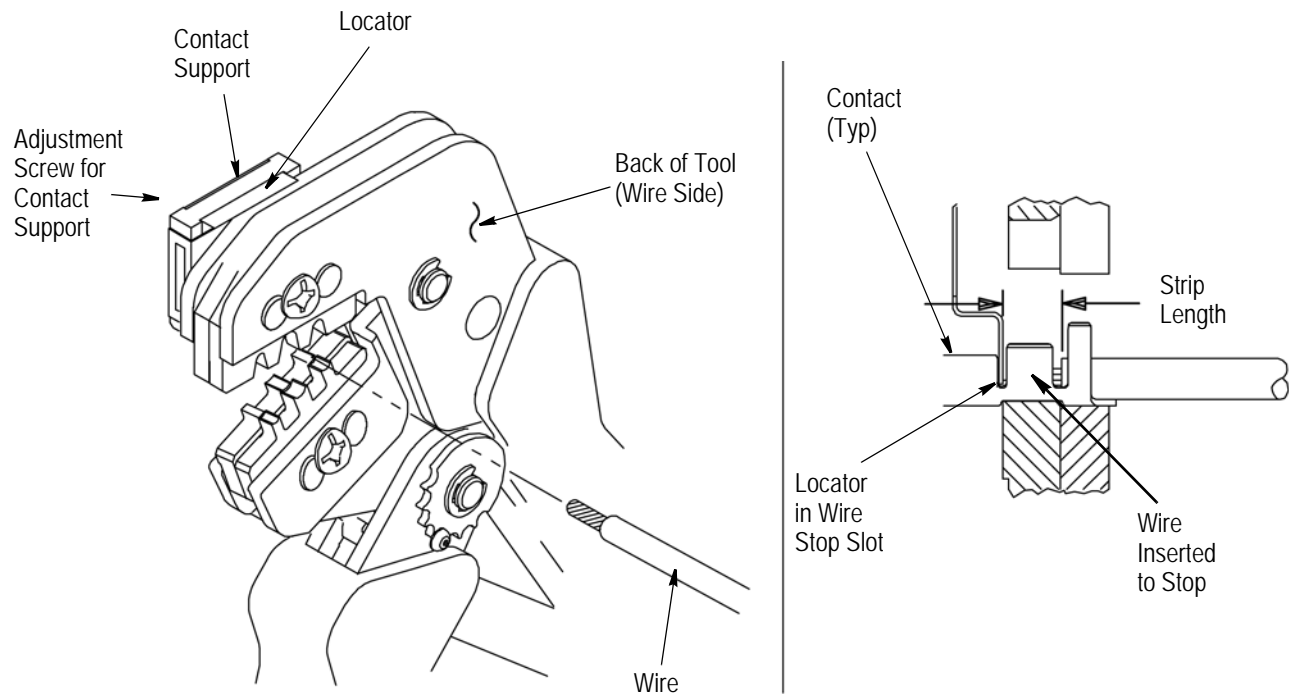

Figure 3
4. CONTACT SUPPORT ADJUSTMENT (Figure 3)
the length indicated in Figure 1, taking care not to nick or cut wire strands. Select an applicable contact and identify the appropriate crimp section according to the wire size markings on the tool. Refer to Figure 3 and proceed as follows:
3. Position the contact so that the mating end of the contact is on the locator side of the tool, and so that the open "U" of the wire and insulation barrels must face the top of the tool. Place the contact up into the nest so that the movable locator drops into the slot in the contact. Refer to Figure 3. Butt the front end of the wire barrel against the movable locator.
5. Insert stripped wire into contact insulation and wire barrels until it is butted against the wire stop, as shown in Figure 3.
NOTE *The crimped contact may stick in the crimping area, but the contact can be easily removed by pushing downward on the top of the locator (see Figure 3).*